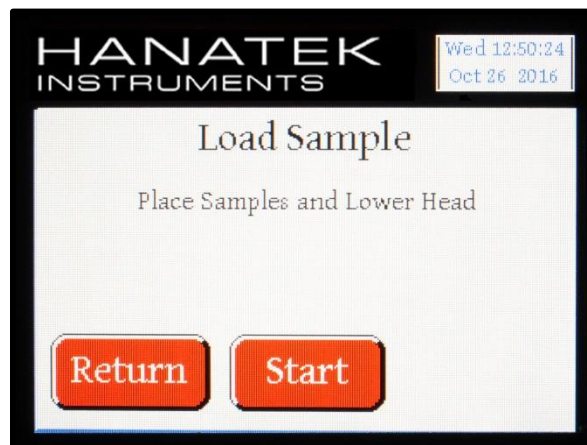

Fig 14
- Press the on-screen start button (fig 14)